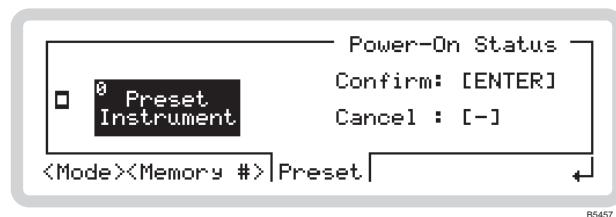

Fig. 3-108 Confirming power-on preset
Touch the soft box or key 0 to request an instrument preset (Fig. 3-108).